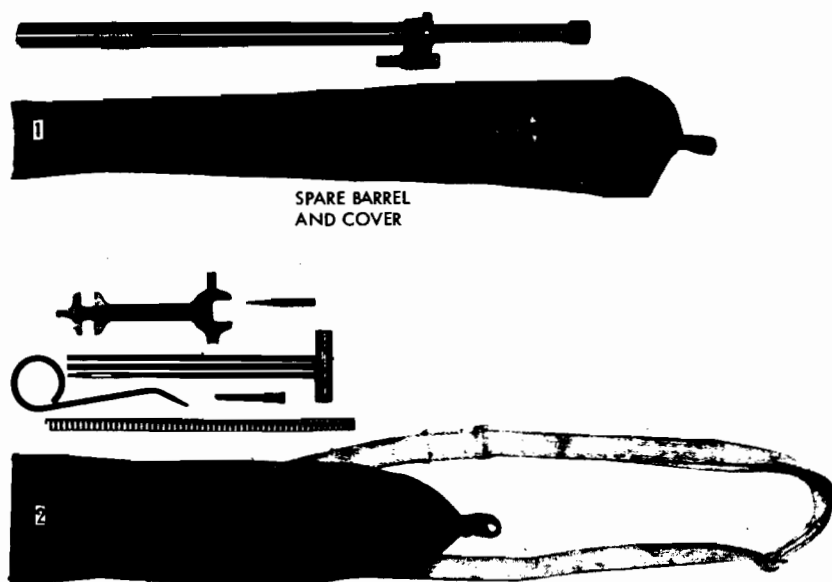

Figure 64. Typical accessory kit for Degtyarev machineguns.
a. The following accessories (fig. 64) are issued for use with the Degtyarev machinegun:
- (1) Fabric sling.
- (2) Belt or drum carrying case.
- (3) Combination tool and sectional cleaning rod.
- (4) Protective covers for the gun and the spare barrel.